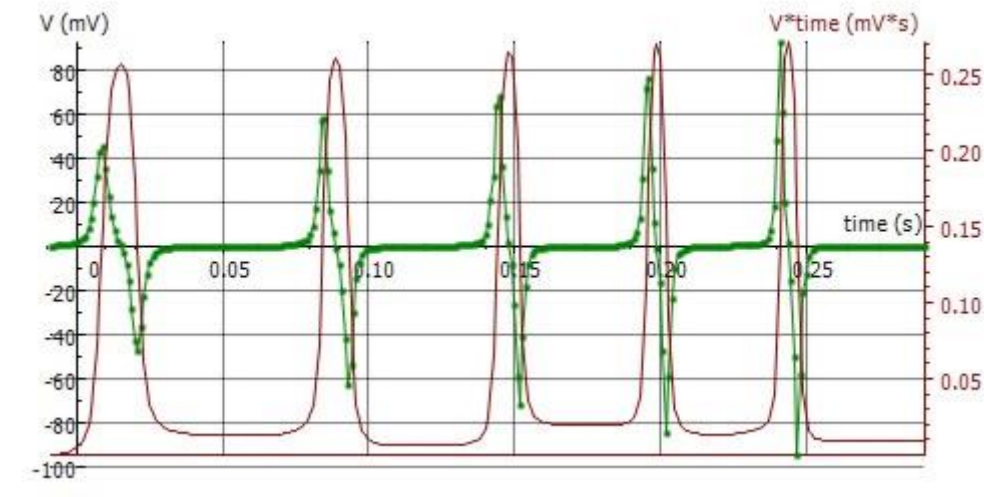

Fig. 3: Change in induced voltage U and magnetic flux Φ over time (screenshot from Coach 7).
In the experiment, a permanent bar magnet is allowed to fall through six identical induction coils that are connected in series. The induced voltage is recorded as a function of time (green curve in Fig. 3).
The green curve in Fig. 3 shows the trace of how voltage changes over time.
The plot in the "Integral" window shows the variable " $V*t$ " in units of " $mV*s$ " (violet curve in Fig. 3). This corresponds to the magnetic flux Φ in equation (2)
The magnetic flux reaches a maximum when the induced voltage returns to zero (Fig. 3), i.e. when the magnet has reached the centre of the coil. The area of the surfaces under all the positive and negative signal peaks remains the same in absolute terms (see above). This corresponds to the maximum magnetic flux Φ of the permanent magnet inside an individual coil. The maximum magnetic flux therefore reaches the same value of $\Phi_{max} \approx 250 \mu Vs$ within the given measurement tolerances.